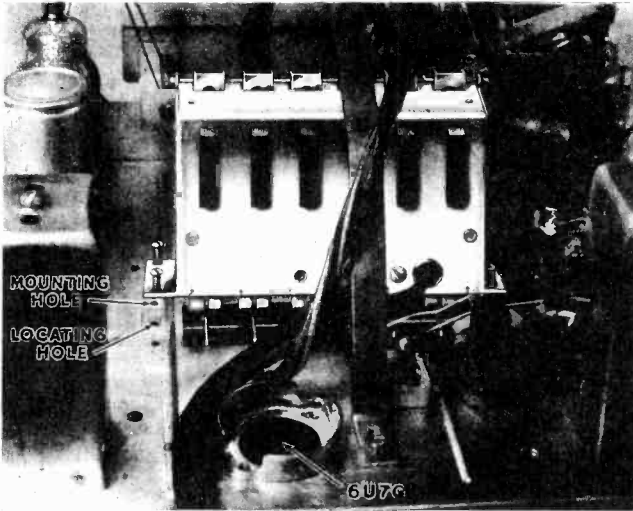

FIG. 6
10. Referring to Fig. 6, mount the relay to the underside of the chassis shelf, using the two wood screws and two spacer washers supplied. On mantle radios, mount the relay beside the radio chassis. Place the spacer washers between the base of the Relay Assembly and the cabinet shelf, passing the wood screws through the holes in the spacer washers.
11. Arrange the wire connector cables to the Magnet Assembly and Relay Assembly as shown in Fig. 6 and put the two tubes which were removed back into their respective sockets.